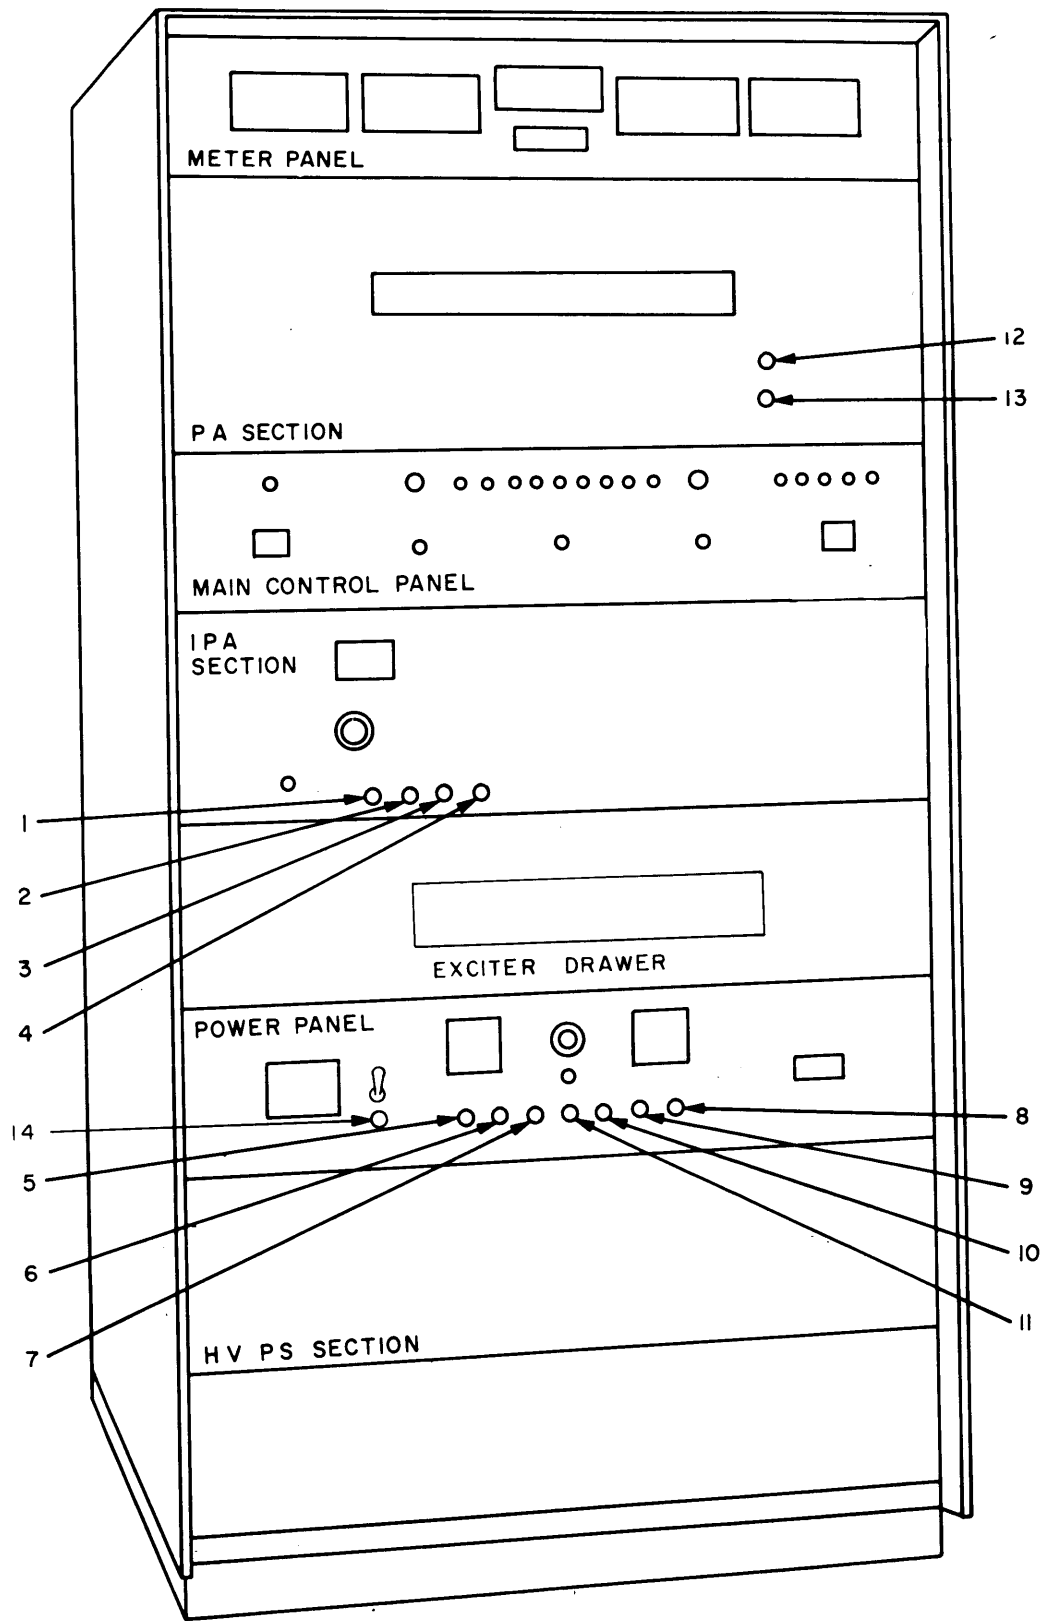

Figure 5-1. Fuse Location
- (2) Fuse Location Drawing (Figure 5-1)
- (3) Fuse Functions (Table 5-3)
- (4) System Overload and Bias Setting Procedure
- (5) ALDC Adjustement Procedure
- (6) Maintenance Programs (for troubleshooting).
- b. Fuse Checks - Should a malfunction occur a visual check of protection fuses on the equipment must be performed. (All fuses are indicating type.) (Refer to Figure 5-1 and Table 5-3 for fuse location and function.)